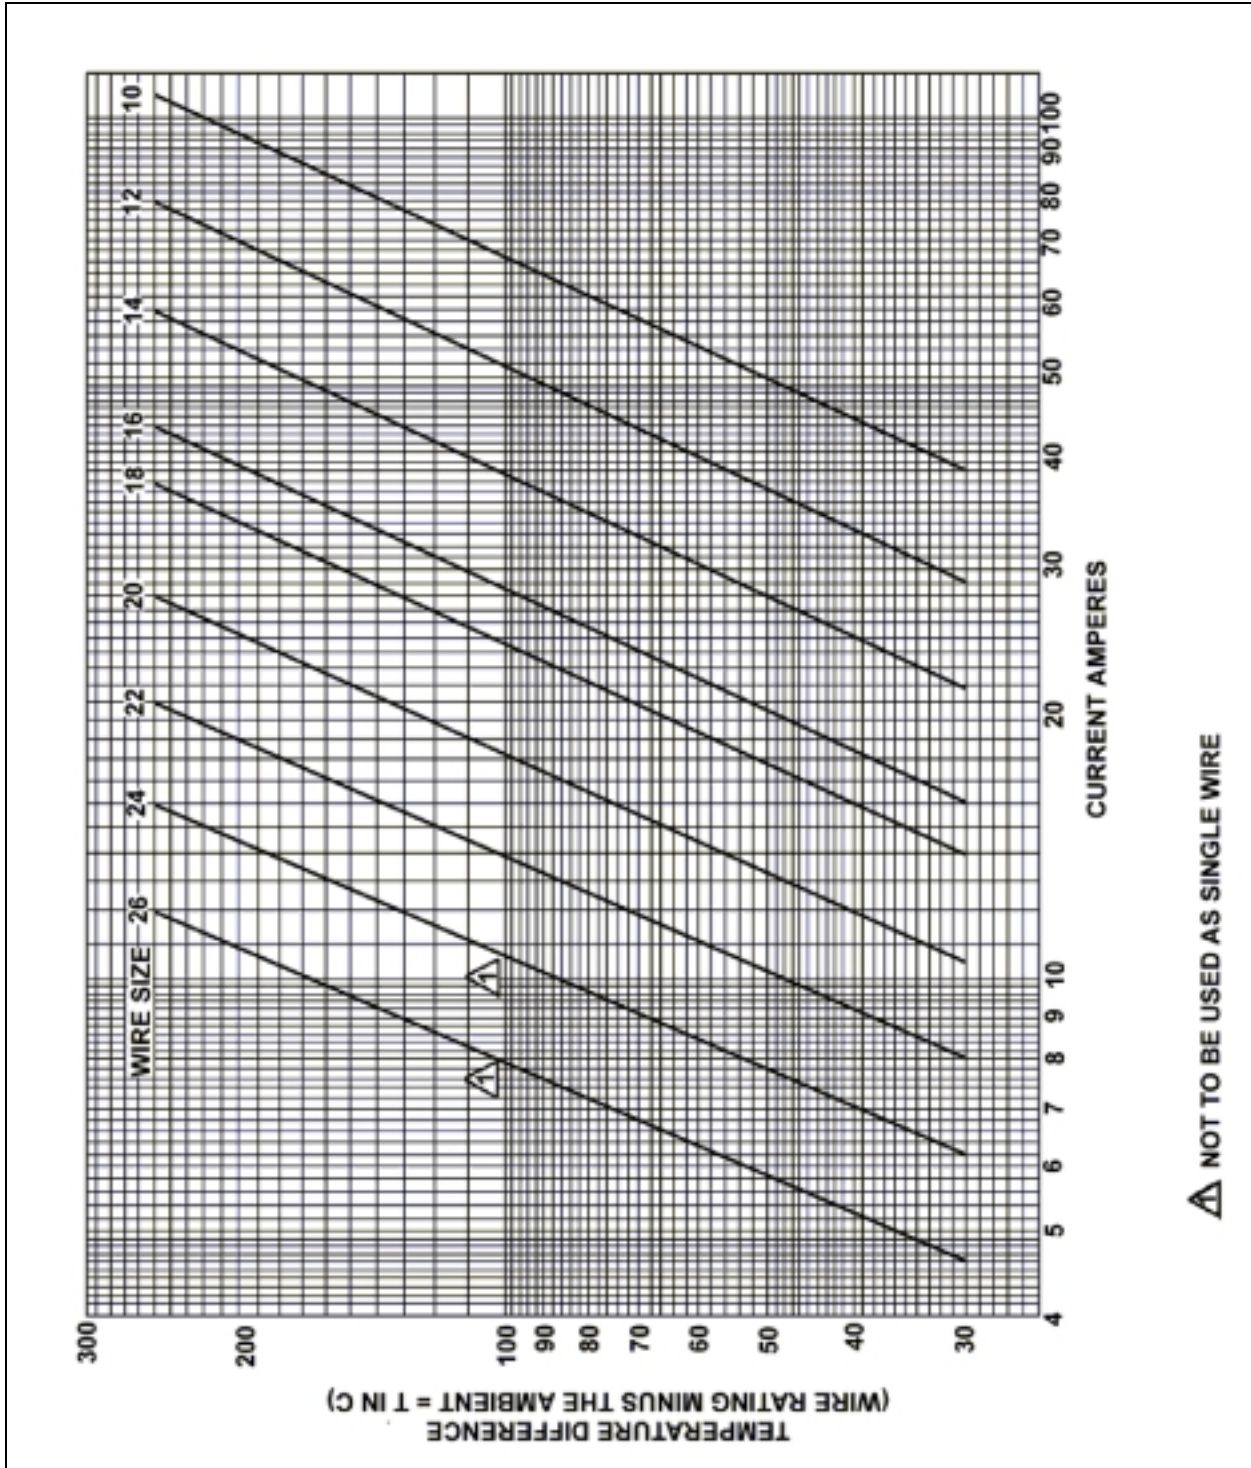

FIGURE 11-4a. Single copper wire in free air.
c. Single Wire in Free Air. Determining a wiring system's current carrying capacity begins with determining the maximum current that a given-sized wire can carry without exceeding the allowable temperature difference (wire rating minus ambient °C). The curves are based upon a single copper wire in free air. (See figures 11-4a and 11-4b.)
STEP 1: Assuming that the recommended load bank testing described in paragraph 11-66d(5) is unable to be conducted, then the estimated calculation methods outlined in paragraph 11-66d(6) may be used to determine the estimated maximum current (I_{max}). The #14 gauge wire mentioned above can carry the required current at 50 °C ambient (allowing for altitude and bundle derating).
(1) Use figure 11-4a to calculate the I_{max} a #14 gauge wire can carry.
$I_{\max} = 37$ amps (this is the maximum current the size #12 wire can carry at 50 °C ambient. Use calculation methods outlined in paragraph 11-69 and figure 11-4a.
STEP 1: Refer to the “single wire in free air” curves in figure 11-4a. Determine the change of temperature of the wire to determine free air ratings. Since the wire will be in an ambient of 60 °C and rated at 200 °C, the change of temperature is 200 °C - 60 °C = 140 °C. Follow the 140 °C temperature difference horizontally until it intersects with wire size line on figure 11-4a. The free air rating for size #20 is 21.5 amps, and the free air rating for size #22 is 16.2 amps.
STEP 1: Refer to the “single wire in free air” curve in figure 11-4a, determine the temperature difference of the wire to determine free air ratings. Since the wire will be in ambient of 25 °C and 60 °C and is rated at 200 °C, the temperature differences are $200\text{ °C} - 25\text{ °C} = 175\text{ °C}$ and $200\text{ °C} - 60\text{ °C} = 140\text{ °C}$ respectively. Follow the 175 °C and the 140 °C temperature difference lines on figure 11-4a until each intersects wire size line, the free air ratings of size #12 are 68 amps and 61 amps, respectively.